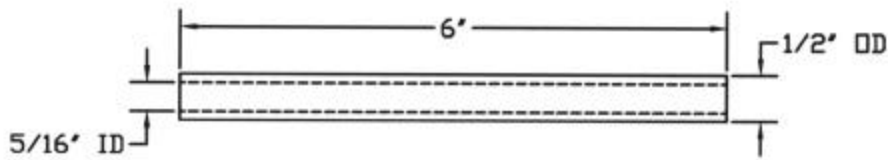

FIG. 6 - CUT PLASTIC TUBING TO LENGTH
6. Cut a piece of plastic tubing to a length of 6". (See Figure 6)